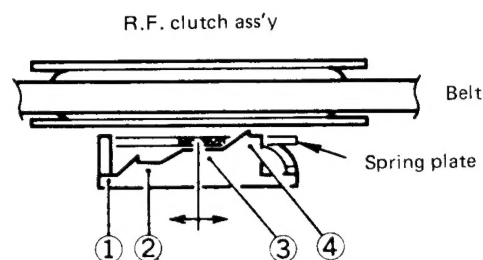

Fig. 14
1. Fast forward torque adjustment (Fig. 14)
2. Rewind torque adjustment (Fig. 14)